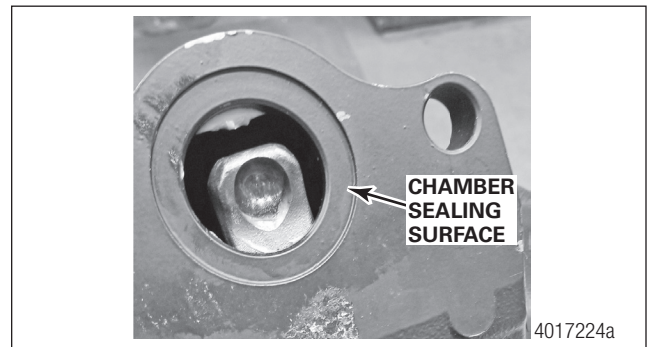

Figure 8.2 Check sealing surface.
4. Inspect the chamber mounting face and sealing surface on the caliper. If the sealing surface is corroded, replace the caliper. Figure 8.2.